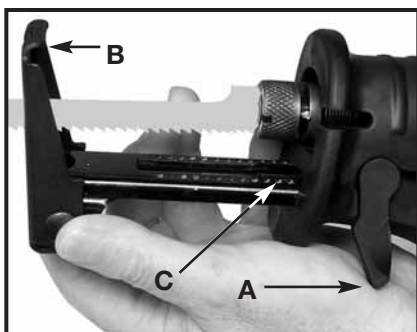
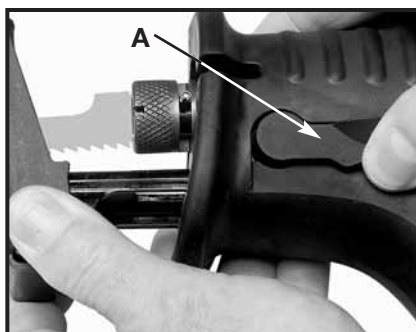

Fig. 11
Fig. 12
To adjust, rotate lever (A) Fig. 11, releasing the pivoting guide shoe (B). Adjust to desired position and close lever (A) Fig. 12. The keyless *Quik-Change™* pivoting guide shoe is designed with a raised lip (C) Fig. 11 at the end that prevents the guide shoe from locking in position if it is extended out too far. After adjusting, make sure the locking lever is completely closed in the locked position (A) Fig. 12.